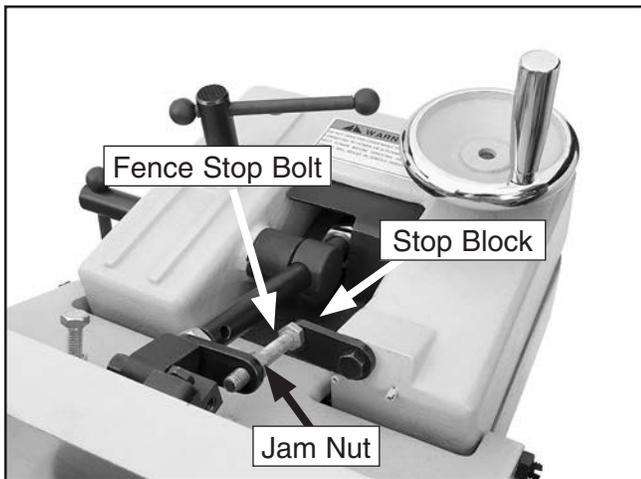

Figure 53. 90° stop block engaged.
2. Flip the 90° stop block into the position shown in **Figure 53**.
3. Loosen the jam nut on the 90° fence stop bolt (see **Figure 53**).